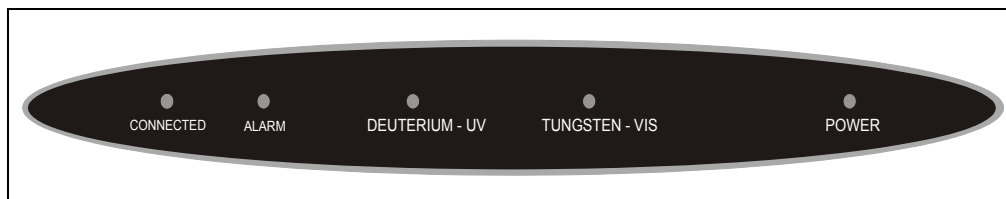

Figure 2-2. Dionex PDA Status Bar
- The status bar provides LEDs (light emitting diodes) that indicate the status of several Dionex PDA components and functions (see Figure 2-2).